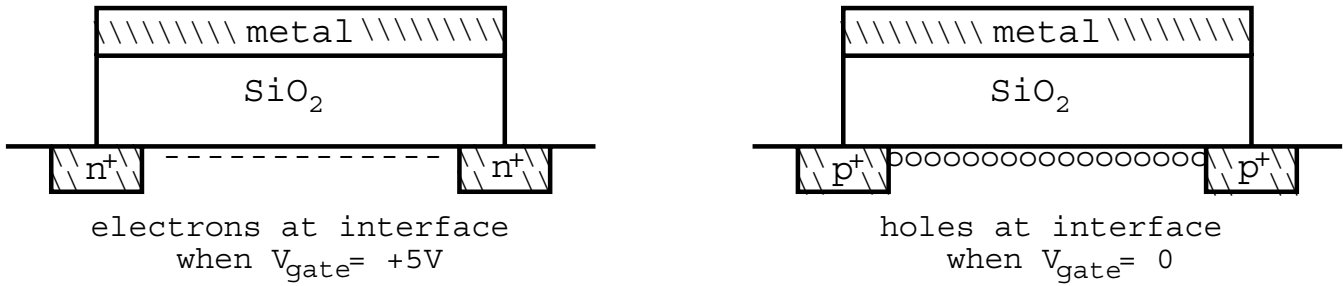

Figure 12: n-channel and p-channel MOSFETs
The substrate can be doped with impurities so that it is either p-type, with holes the dominant carrier, or n-type, with electrons the dominant carrier. This is accomplished by doping the material with either acceptor (for p-type) or donor (for n-type) impurities. The dominant carrier in the contact regions will be the dominant carrier in the conducting channel when the device is on. The two different types of FETs, n-channel and p-channel are shown in Figure 12. The voltage on the gate (G) controls the state of the conducting channel, one end of which is the Source (S) and the other, the drain (D). The n-channel device is turned on when a positive voltage is applied to the gate and electrons in the conduction bands are attracted toward the n-channel interface between Si and SiO_2 . The p-channel device is normally on with no voltage applied to the gate, due to the surplus of holes in the valence band as a result of doping. When positive voltage is applied to the gate, electrons fill these valence band vacancies, turning the p-channel device off.